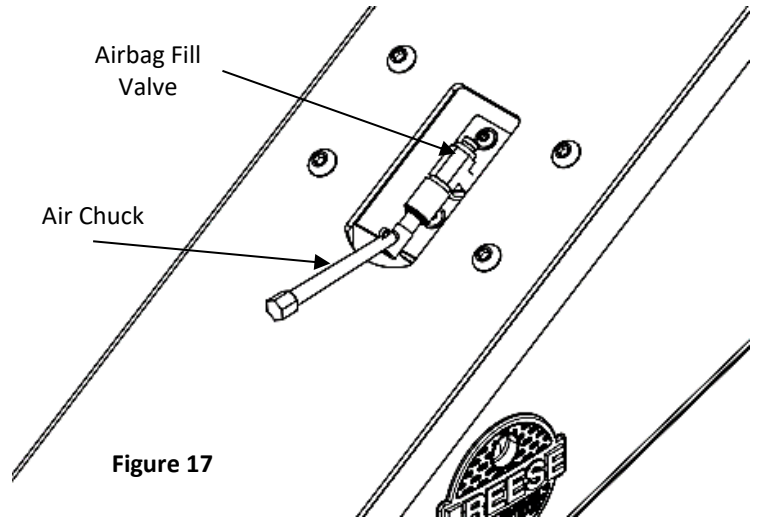

Figure 17
2. With trailer hitched to truck and landing gear/jacks retracted, add air to the airbag fill valves as shown in figure 17.
NOTE: Air should **only** be added with air chuck in location shown in figure 17.